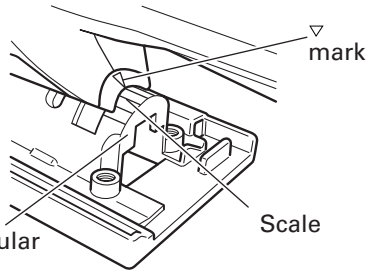

Fig. 17
- (2) Align the scale (from 0 degrees to 45 degrees by 15-degree increments) of the semi-circular part of the base with the [▽] mark on the gear cover. (Fig. 17)